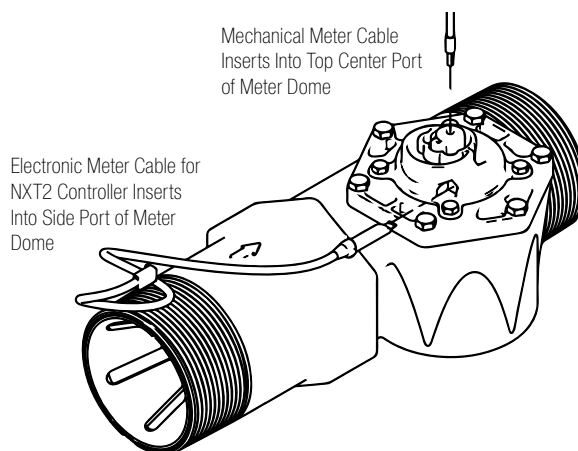

Figure 1
16. Connect meter cable(s) into meter dome(s) according to Figure 1. NXT2 & SXT controller meter cable(s) must use side port on meter dome(s). Connect the other end of the meter cable(s) to the control valve's P5 port located on the control valve's controller of the control valve the meter is plumbed into. For HCTA-300 series systems, connect the meter cable to a single control valve controller. See pages 15 & 16 for P5 location.